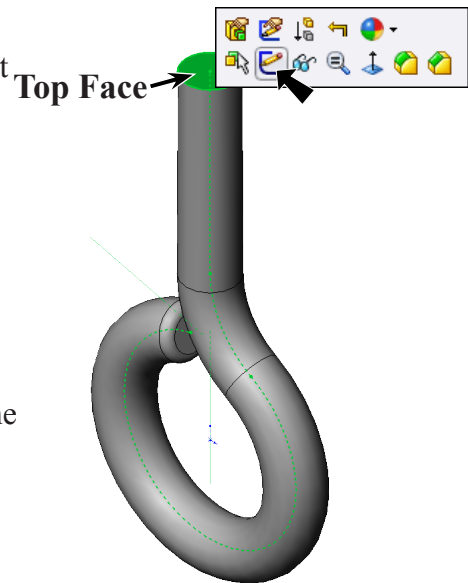

Fig. 15
Step 1. Click the **top face** and click **Sketch**  on the Content menu, Fig. 15.